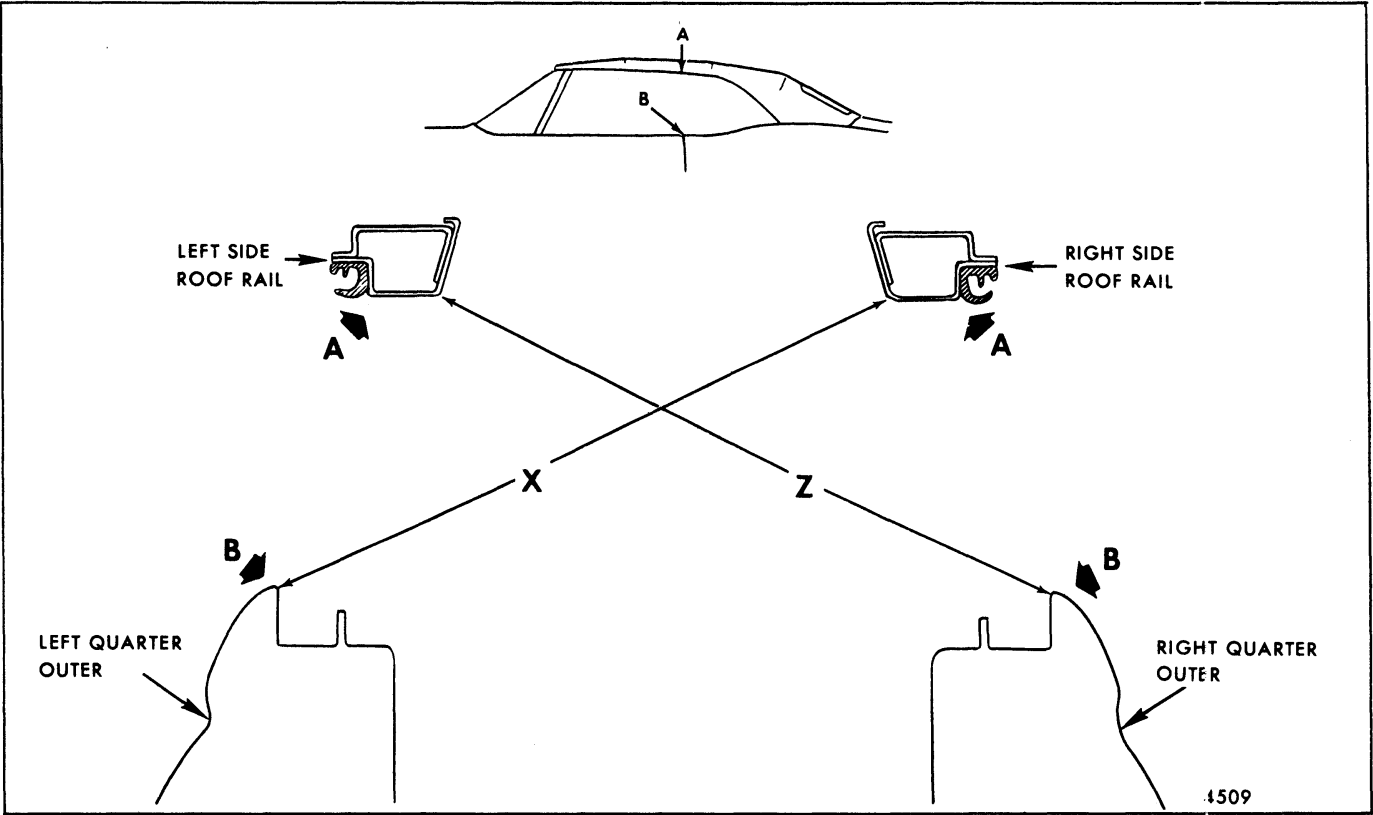

Fig. 8-79-Diagonal Check of Side Roof Rails
4. Cross-check body with tram gauge or tape measure as described in Figure 8-79. Side rails are in good alignment when both diagonal measurements are within  $\frac{3}{8}$  of an inch. Re-check measurements to assure accuracy. If difference between measurements exceeds  $\frac{3}{8}$  of an inch, side rail of longer measurement requires adjustment to decrease tension. In this event, adjust affected control link mounting plate forward.
B. When diagonal measurements illustrated in Figure 8-79 are within  $\frac{3}{8}$  of an inch.